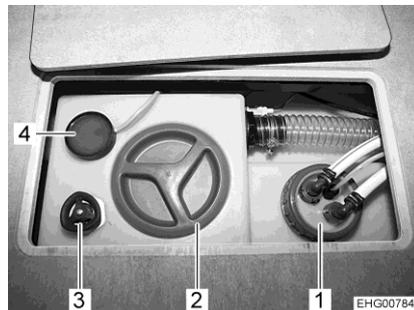

Fig. 130 Rotary handle (water tank)
- Opening:* ■ Turn the rotary handle (Fig. 130,3) on the water tank in an anticlockwise direction as far as it will go. Excess water will drain away leaving approx. 20 litres in the tank.
- Closing:* ■ Turn the rotary handle (Fig. 130,3) on the water tank in a clockwise direction as far as it will go.